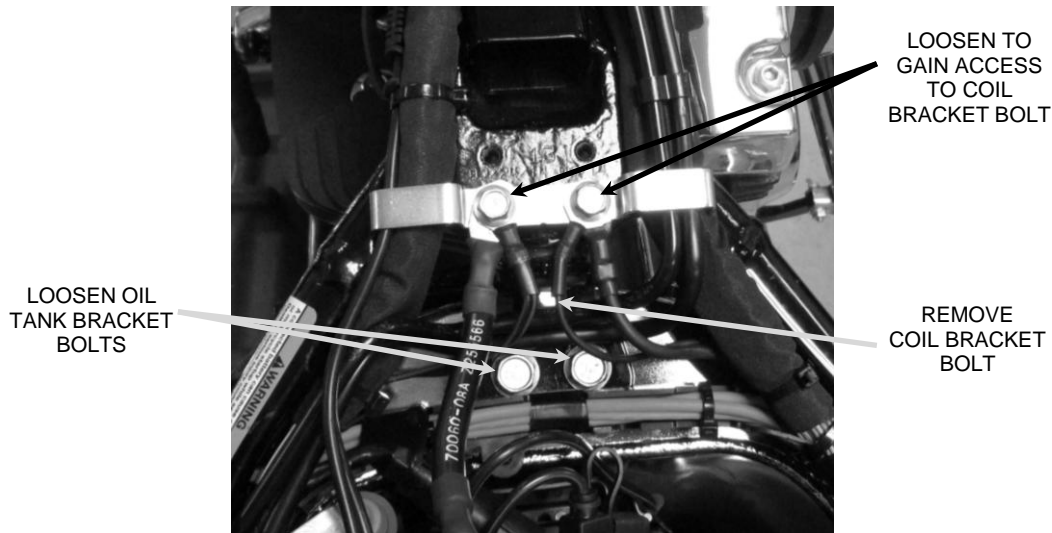

FIGURE 3
9. Loosen the two bolts for the ground wires and wire harness strap and rotate the wires out of the way. See **FIGURE 3**. Make sure to label the positioning of any wires that are removed.
10. Loosen the two oil tank bracket bolts and remove the top and bottom coil bracket bolts. See **FIGURE 3**. Remove the coil bracket by sliding it up off of the bottom mounting boss on the engine and then down allowing the bottom of the bracket to go towards the right side of the bike. Then pull the top of the bracket out towards the left side of the bike.
13. Tighten the two lower bolts of the oil tank bracket and the two bolts for the ground wires and wire harness strap that were loosened in **STEP 9**. See **FIGURE 3**.